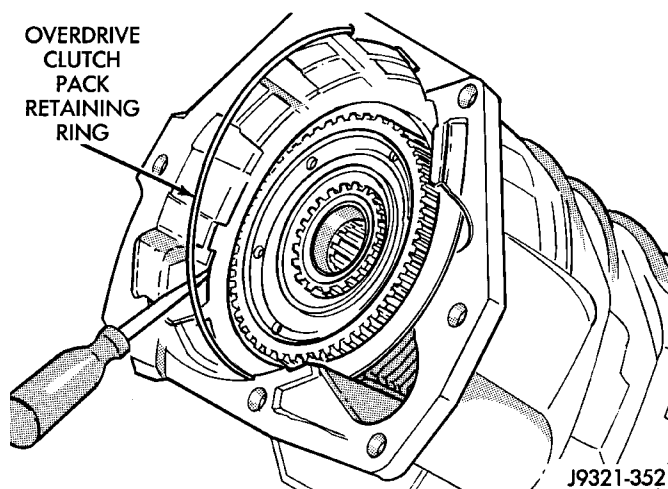

Fig. 248 Overdrive Clutch Pack Retaining Ring Installation
(4) Install overdrive clutch reaction plate first.
(5) Install first clutch disc followed by first clutch plate. Then install remaining clutch discs and plates in same order.
(6) Install clutch pack pressure plate.
(7) Install clutch pack wire-type retaining ring (Fig. 248).